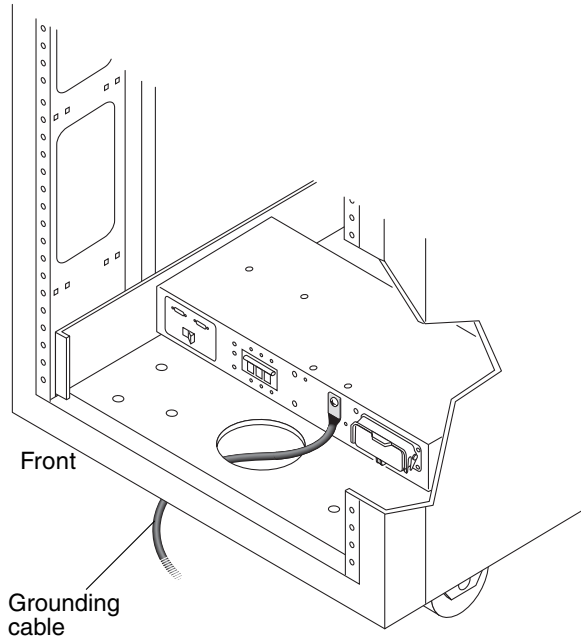

FIGURE 2-14 Attaching the Grounding Cable to the Front AC Power Sequencer
5. Attach one end of the grounding cable to the front AC power sequencer on the cabinet (FIGURE 2-14). Feed the cable through the opening at the bottom of the cabinet.